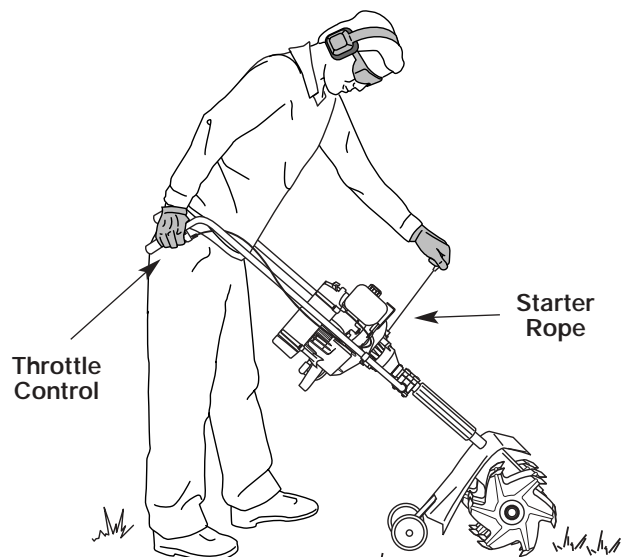

Figure 17
**WARNING:** Avoid accidental starting. Make sure you are in the starting position when pulling the starter rope. See Figure 17. To avoid serious injury, the operator and unit must be in a stable position while starting.
5. With the unit in the starting position (see Figure 17), squeeze the throttle control to the wide open (full throttle) position. Pull the starter rope briskly 5 times while still in the **FULL** choke (A |←|) position. If the engine attempts to run before the fifth pull, proceed to step 6.
7. Pull starter rope 1 to 3 times, briskly, to start the engine. See Figure 17.
1. Release your hand from the throttle control. See Figure 17. Allow the engine to cool down by idling.